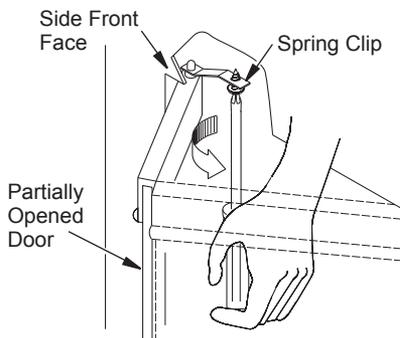

Figure 13 - Adjust Glass Door
7. To adjust doors, slide partially open. Using a Phillips screwdriver, loosen hold-down screws on spring clips (see Figure 13).
Note: If pins do not align into spring clips, slightly loosen retaining screws on each clip (see Figure 13, page 8). Reinsert panel into each spring clip and align panel into lower locating holes. Remove panel, finish tighten screws and reinsert panel.